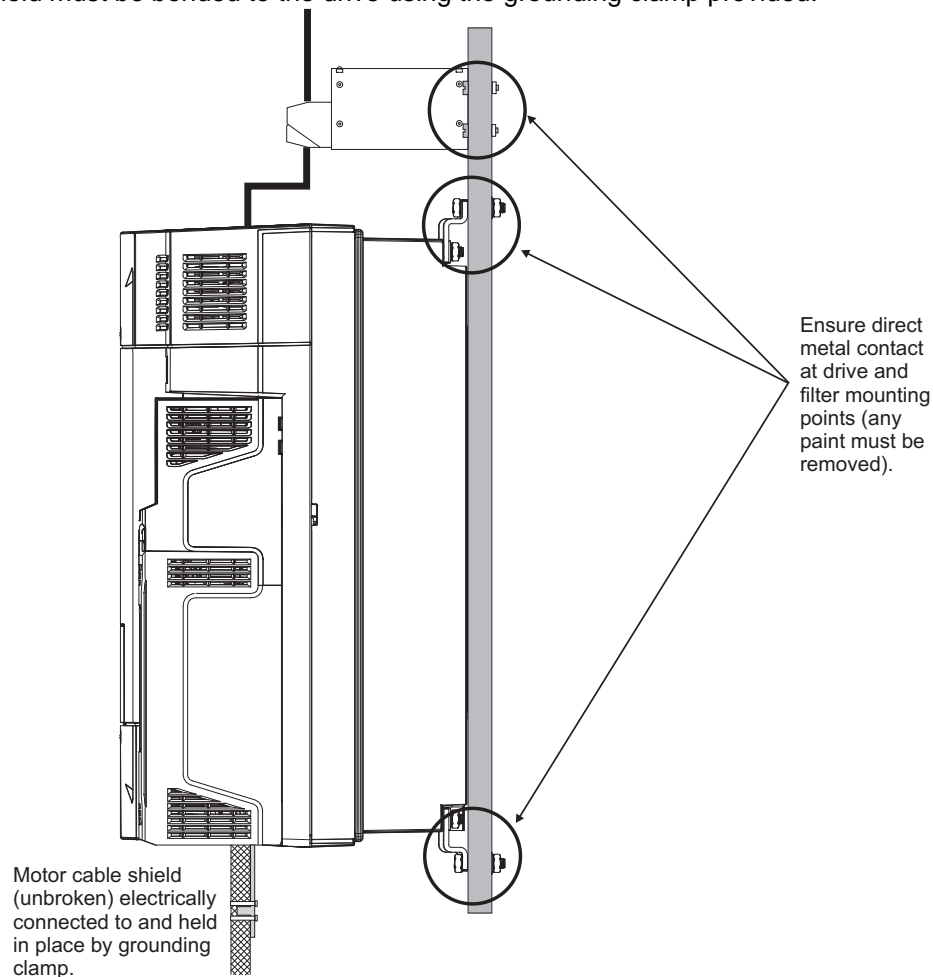

Fig.3 Grounding the drive, the filter and the motor cable screen
1. The drive and filter must be mounted on the same metal back-plate, and their mounting surfaces must make a good direct electrical connection to it (see *fig.3*). The use of a plain metal back-plate (e.g. galvanised not painted) is beneficial for ensuring this without having to scrape off paint and other insulating finishes.